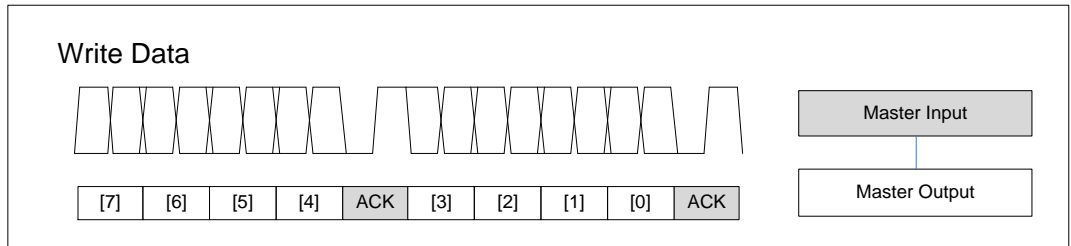

Figure 9-4. Write Byte Structure
Figure 9-4 shows the byte structure of write data. ALPU-P transmits true(1) value every 4 bits for acknowledge.